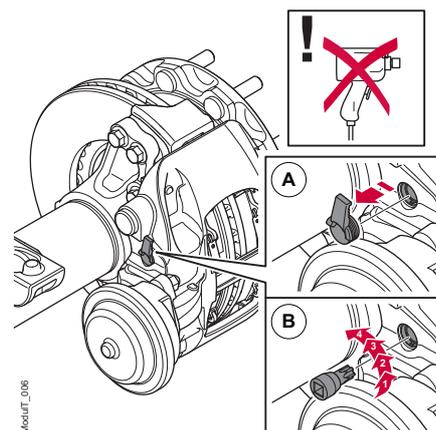

Figure 8. De-adjustment via the reset shaft
2. Remove the reset shaft protection plug (A), see figure 8. (PWS / PWIS remove the black rubber plugg on the sensor.)
3. Using Haldex special tool P/N95232 (Torx 55) "6 Tools", de-adjust the brake by turning the reset shaft anti-clockwise by 4 clicks, or till the end stop, see (B) figure 8. A distinct clicking sound shall be heard and felt when de-adjusting.